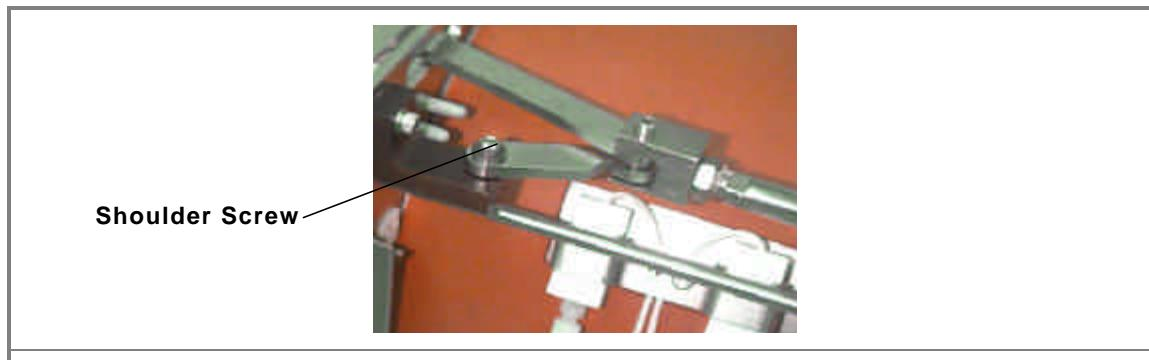

Figure 4-14. Removing the door linkage shoulder screw.
12. Remove the door linkage shoulder screw (Figure 4-14) that secures the shorter link on the pivot link bracket.